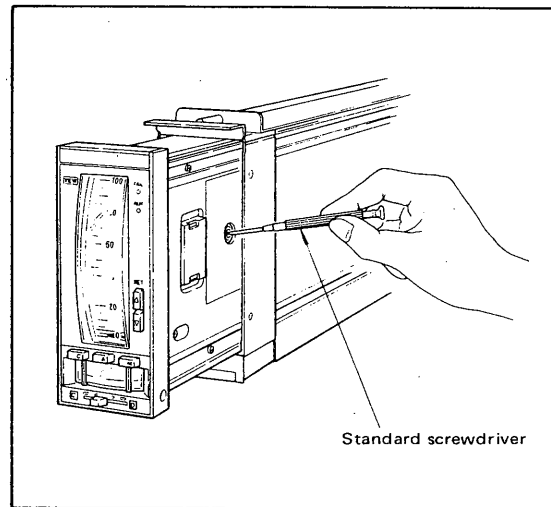

Figure 6-2-1. Adjusting Zero Point of Process Variable Indicator
- (1) Apply a 3.0 V DC standard voltage to input terminal X1 (terminal nos. 1(+) and 2(-)) from a standard voltage source.
- (2) Check that the process variable pointer is at the  $50\% \pm 0.5\%$  calibration mark on the scale.
- (3) If the indication is not within the specified range, adjust the zero adjustment screw as shown in Figure 6-2-1 until the pointer correctly indicates 50%.
- (4) Change the input signal in turn to 1.0V, 2.0V, 4.0V and 5.0V, and ensure that the indication is respectively 0%, 25%, 75% and 100%, using the calibration marks. Tolerance for each indication is  $\pm 0.5\%$  of the span.
- (5) If the indication is not within the  $\pm 0.5\%$  tolerance at any position, again input 3.0V DC, and adjust the indicated value slightly — within the range  $50\% \pm 0.5\%$ .
- (6) Repeat step (4). As necessary, repeat steps (4) and (5) until all points fall within the tolerance range.